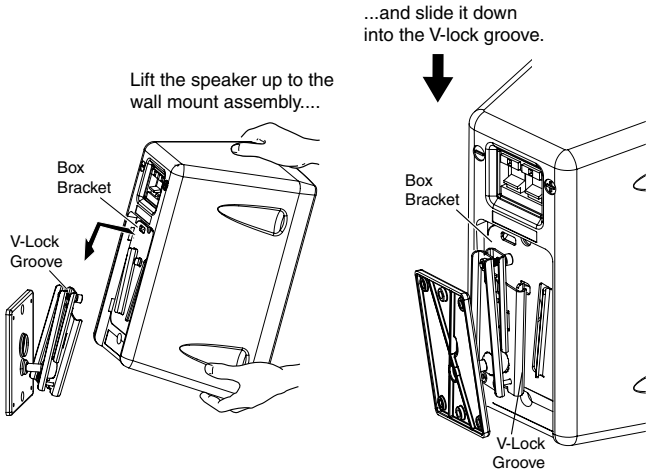

Figure 6 — Slide the speaker down onto the wall mount assembly
1. Carefully lift the speaker above the wall mount assembly and gently slide the speaker box bracket down into the V-lock groove (see figure 6) until it locks into place.